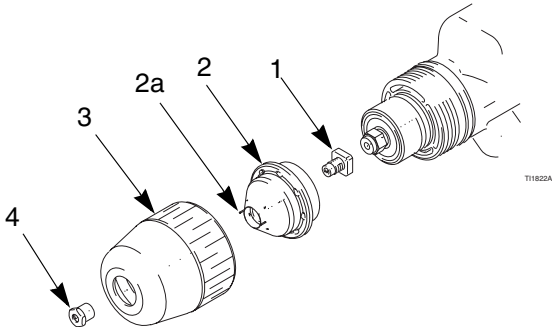

Fig. 2. Install the Round Spray Kit
4. Install the diffuser/seal assembly (1), air cap/electrode assembly (2), and cover (3) onto the gun. Tighten the cover firmly. See Fig. 2.
If the electrode (2a) needs to be replaced or reinstalled, insert the two ends of the electrode into the two small air cap (2) holes until both electrode ends protrude through the front of the air cap. Refer to Fig. 2 and the "Parts" drawing on page 6.
2. Loosen the cover (3) and remove the round spray kit parts (1, 2, 4). See Fig. 2.